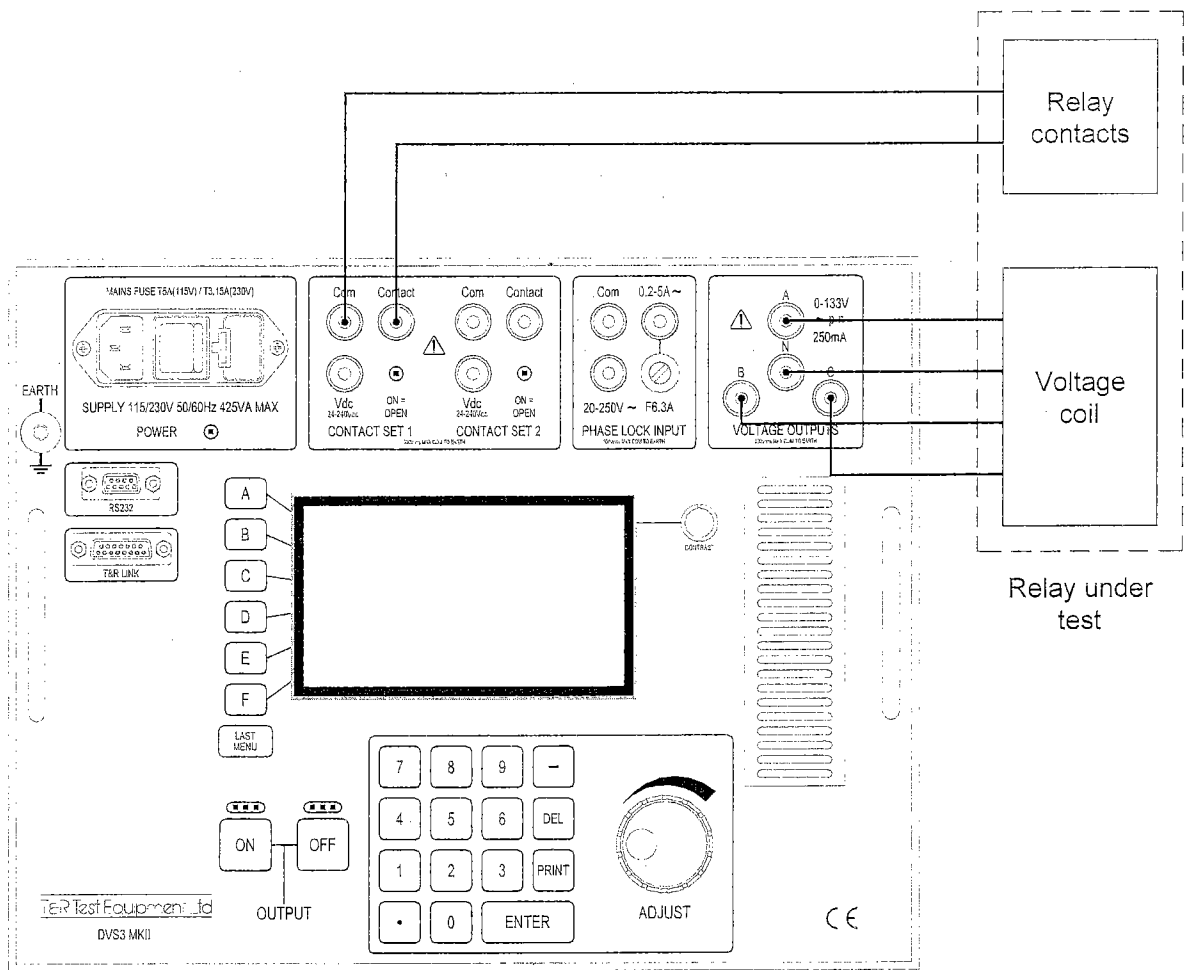

Figure 3.4 Connections for under and over frequency relays
- Connect an auxiliary supply to the relay if required (not shown in figure 3.4).